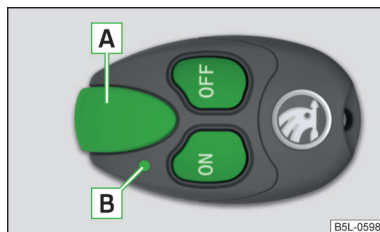

Fig. 128
**Function and description of the radio remote control** » Fig. 128
To switch the auxiliary heating on or off, hold the remote control vertically, with the aerial **A** » Fig. 128 pointing upwards. The antenna must not be covered with the fingers or the palm of the hand during this process.
Display warning light B » Fig. 128	Meaning